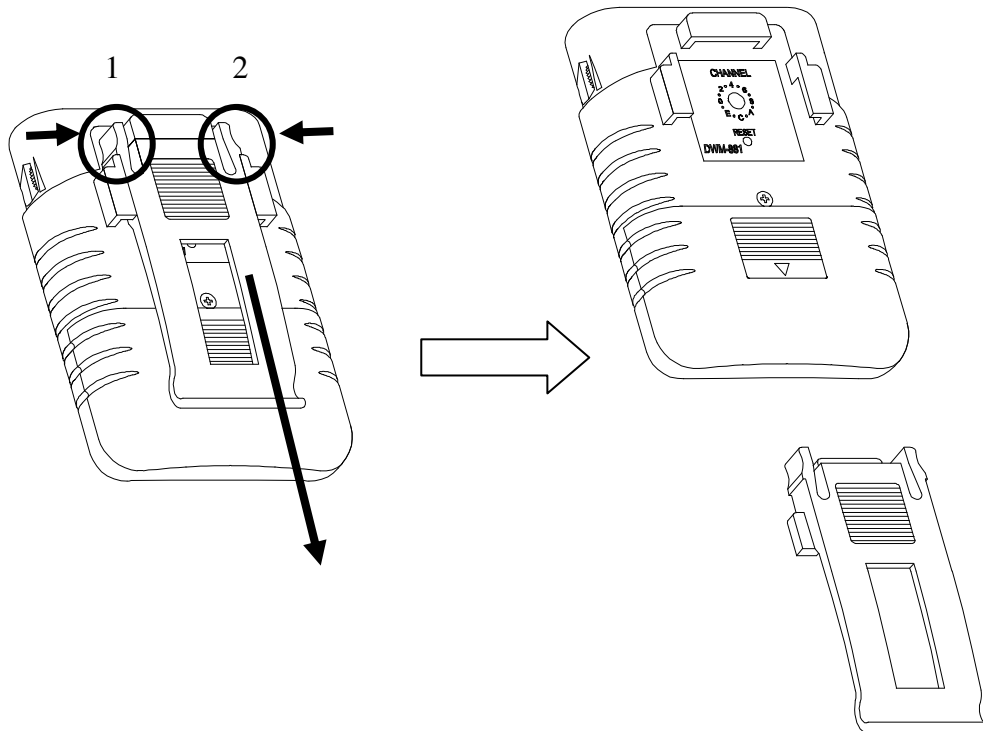

Figure 5.4
5.6.2 First step is to remove the Belt-Clip. As shown in figure 5.4, press on where circle 1 and 2 indicates to remove Belt-Clip.